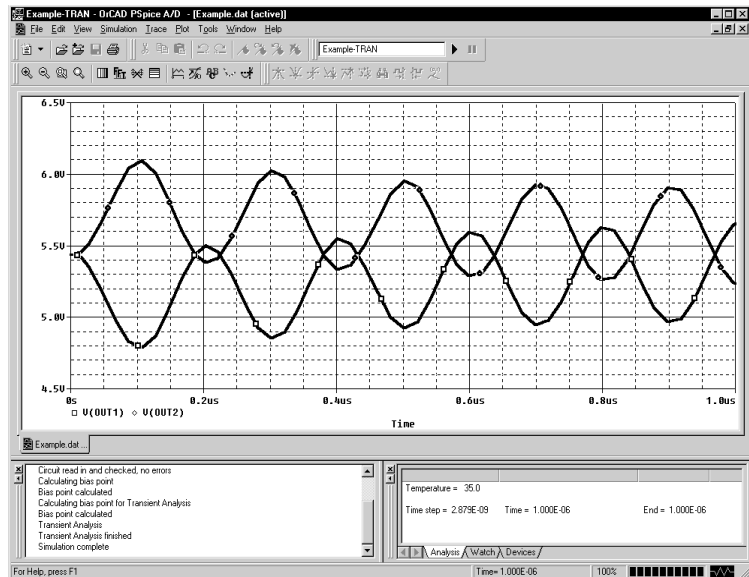

Figure 117 Waveform display for EXAMPLE.DAT.
PSpice generates a binary waveform data file containing the results of the simulation. A new Probe window appears with the waveform data file EXAMPLE.DAT already loaded (Figure 117).
- 2 Click V(OUT1) and V(OUT2), then click OK. The Probe window should look similar to Figure 117.